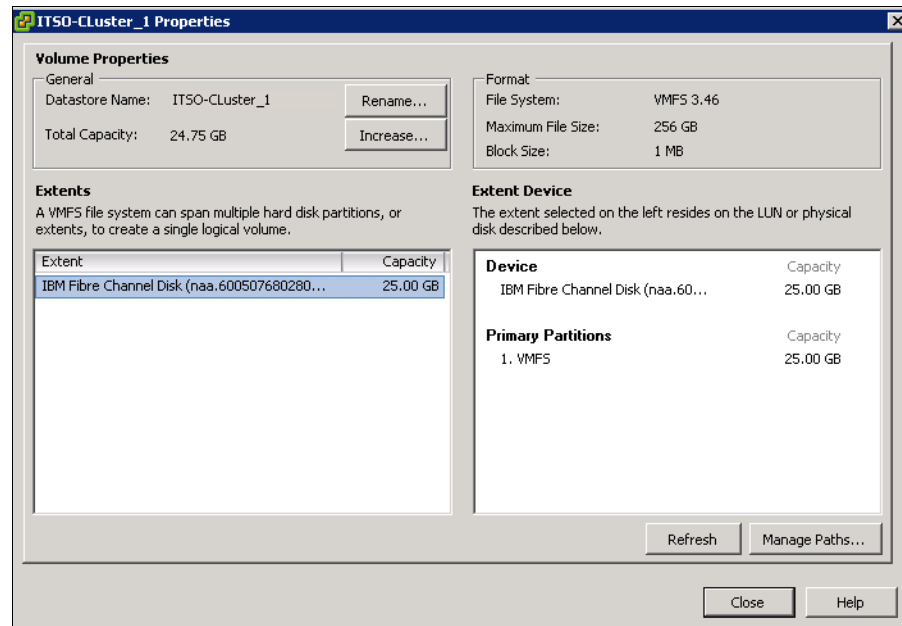

Figure 12-46 Data store properties
- Highlight the new data store and click **Properties** to see the details of it (Figure 12-46).